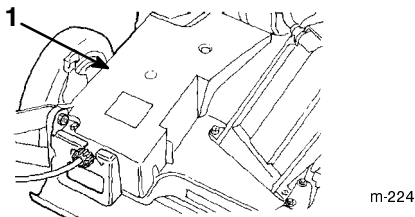

Figure 25
2. Remove the bolts that secure the belt cover (Fig. 25) to the lawn mower housing.